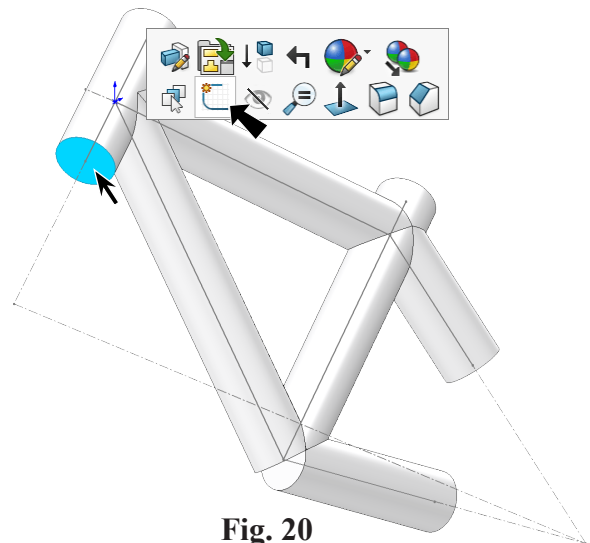

Fig. 20
Step 1. Rotate view to view bottom face of Head Tube, Fig. 20. Use Isometric  on the Standard Views toolbar (Ctrl-7), then Up Arrow key  4 times.
Step 2. Click bottom face of Head Tube member and click Sketch  on the context toolbar, Fig. 20.